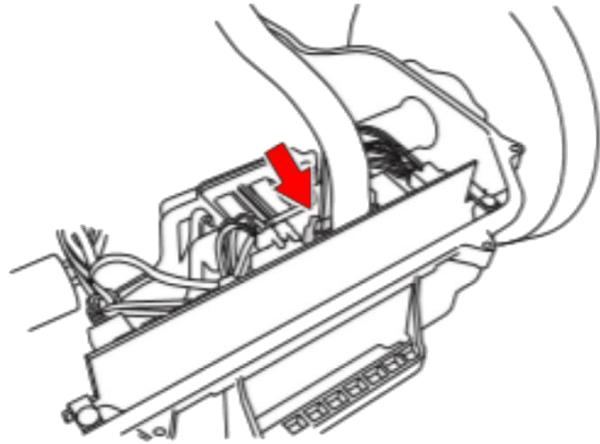

Figure 3
4. Disconnect the HMI cable from the main print. This is indicated by an arrow in Figure 3.